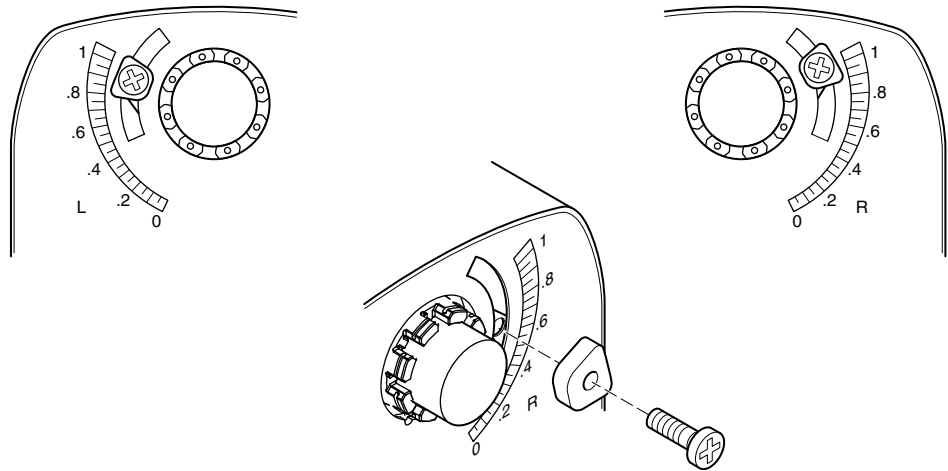

Figure-5 Adjusting Stop Block for Limited Rotation.
3. Slide the stop block into position, so that its edge lines up with the degree graduation on the actuator face which corresponds with the required rotation. See Figure-5.